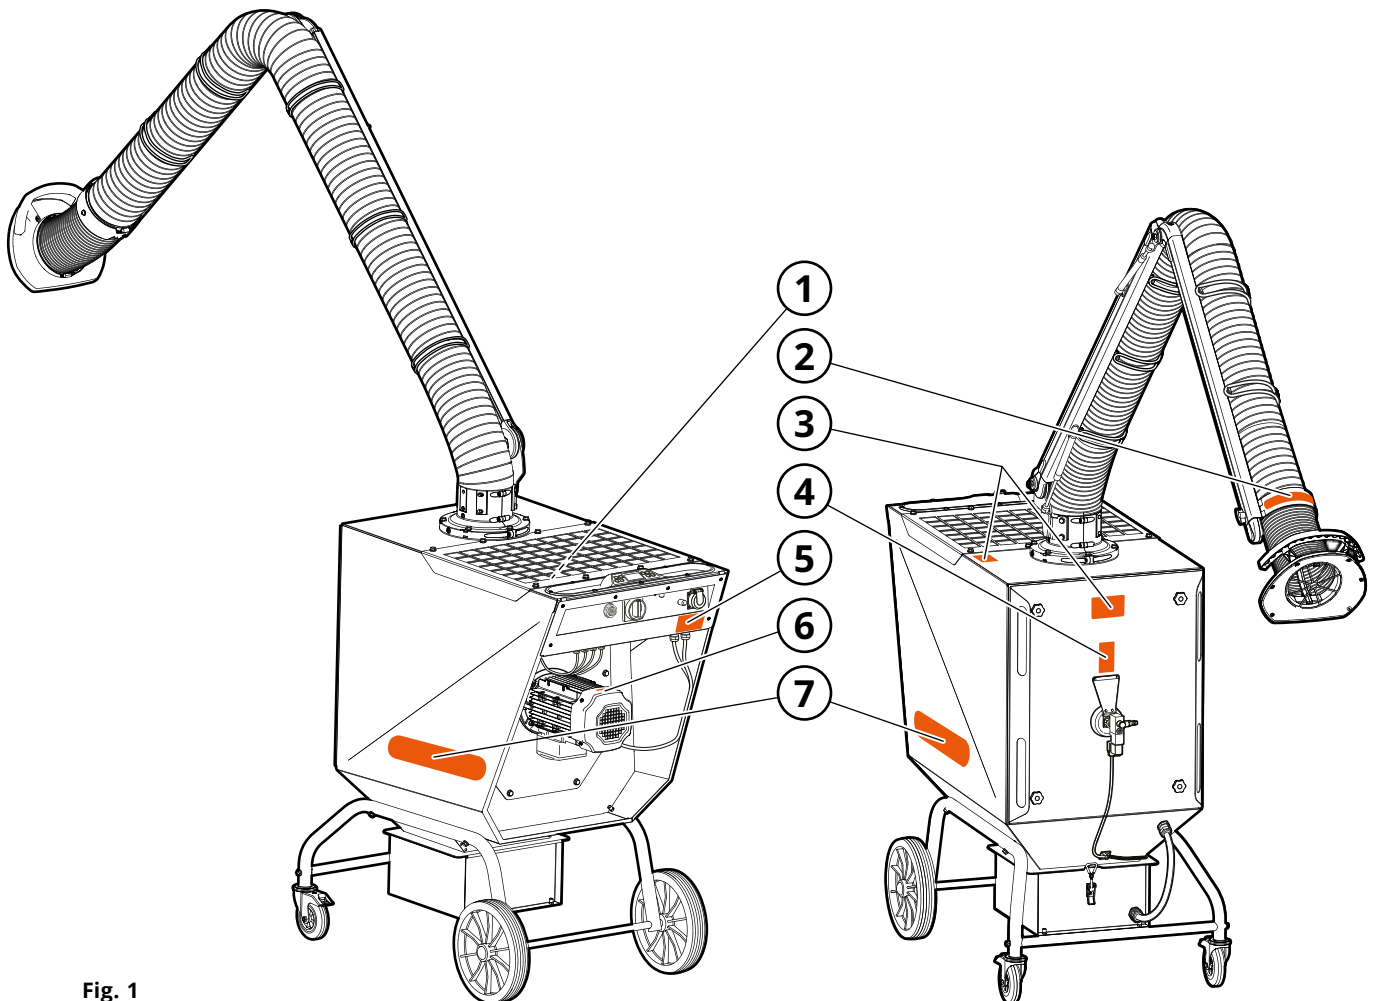
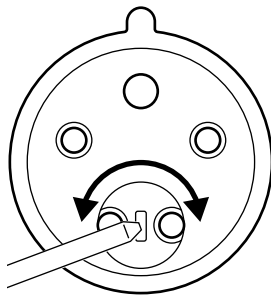

Fig. 1
Fig. 15
According to **Fig. 1**.
Contaminated air is drawn in via the extraction arm (1, **Fig. 1**) to the dirty side of the machine (8), where the air is cleansed through the filter cartridge (9). The degree of filtering is $\geq 99\%$ for smoke and dust contamination from the welding of high-alloy steels, such as steel with a nickel and chromium content of 30% or higher. The clean air is then drawn through the impeller (22) and discharged from the clean side of the filter unit (21) through the exhaust grate (4).
3. Check the rotational direction of the fan motor. The fan motor rotation direction is checked by starting the fan, then stopping the fan. When the speed decreases, you can see which way your engine rotates through the hood for the fan cooling (where the decal is located, according to **Fig. 1**, pos. 6). If the direction of rotation is incorrect, use a flat screwdriver to reverse the phase on the plug as shown in **Fig. 15**.